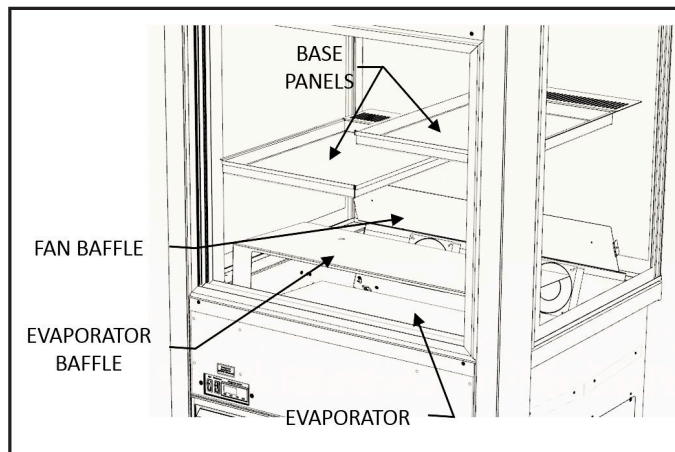

Figure 7 - Diagram showing access to the Evaporator
- (b) Remove the Base panels - see Figure 7.